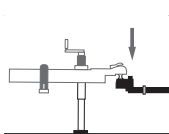

Figure 29
2. Lower the trailer coupler until it is resting on the hitch ball. If the trailer coupler won't sit properly, adjust the position of your tow vehicle. (Figure 29)